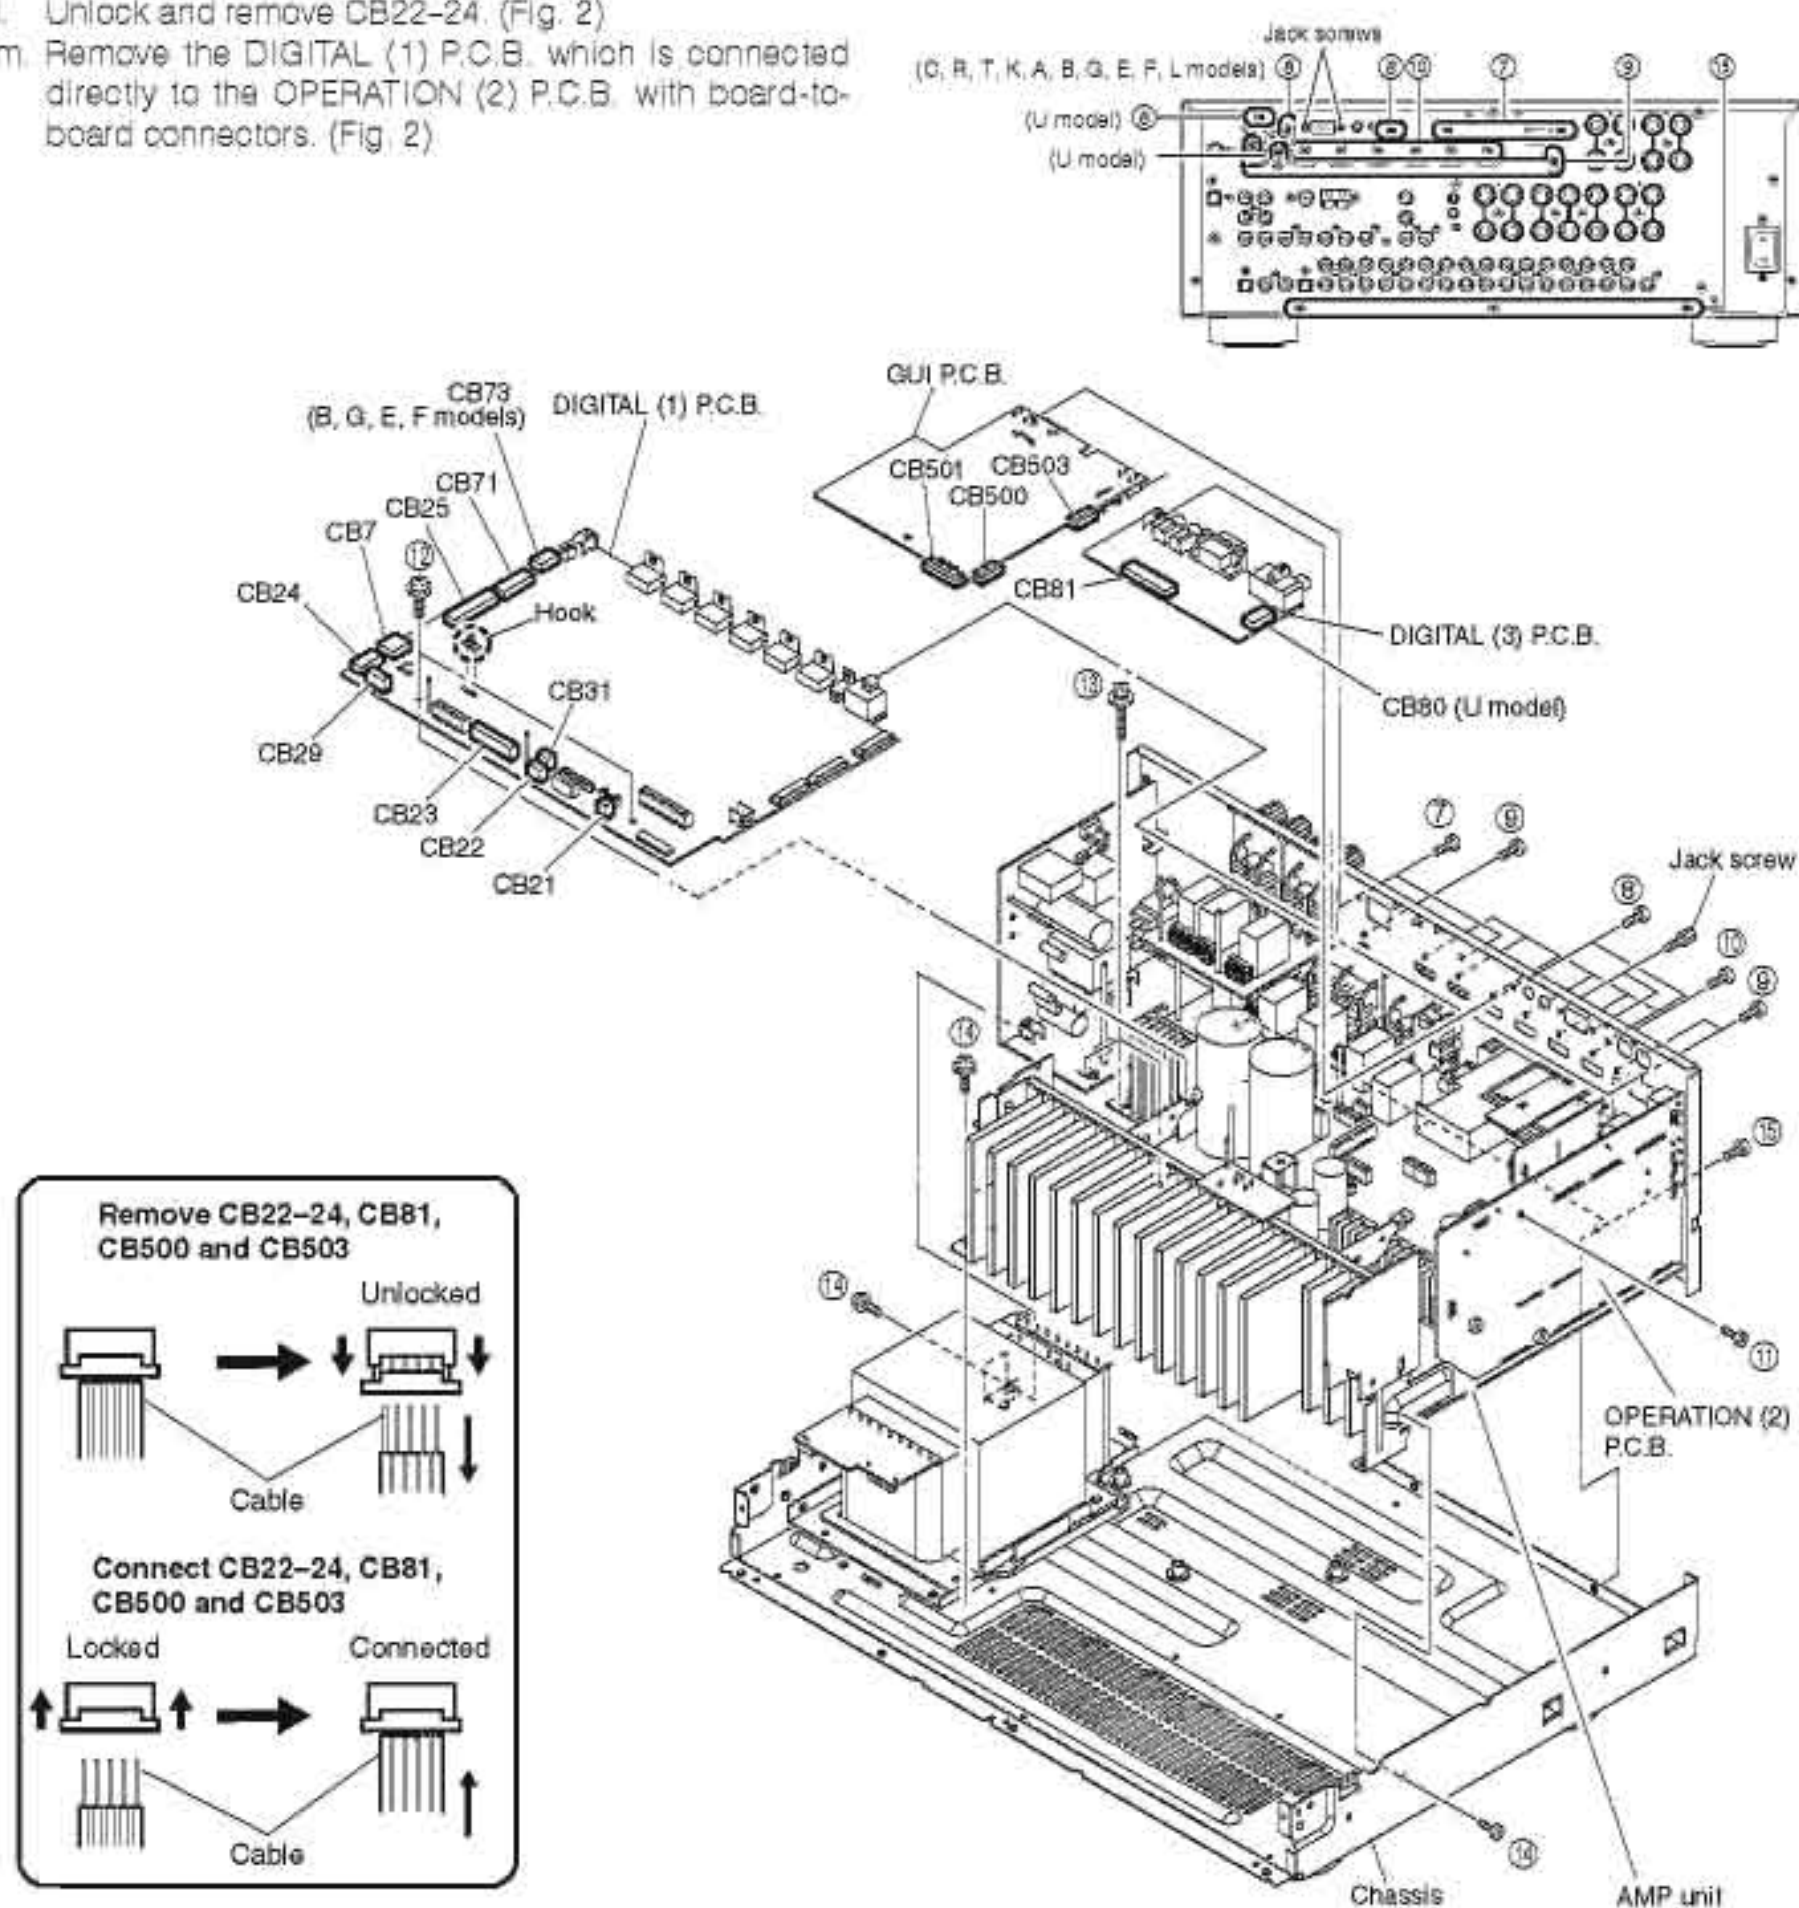

Fig. 2
3. Removal of GUI, DIGITAL (1) and (3) P.C.B.s
- Remove 2 screws (7). (Fig. 2)
- Remove CB501. (Fig. 2)
- Unlock and remove CB500 and CB503. (Fig. 2)
- Release hook, and remove the GUI P.C.B. (Fig. 2)
- Remove 2 screws (8) and 2 jack screws. (Fig. 2)
- Remove CB80 (U model). (Fig. 2)
- Unlock and remove CB81. (Fig. 2)
- Remove the DIGITAL (3) P.C.B. (Fig. 2)
- Remove 3 screws (U model) / 2 screws (C, R, T, K, A, B, G, E, F, L models) (9) and 6 screws (10). (Fig. 2)
- Remove screw (11) and 2 screws (12). (Fig. 2)
- Remove CB7, CB21, CB25, CB29, CB31, CB71 and CB73 (B, G, E, F models). (Fig. 2)
- Unlock and remove CB22-24. (Fig. 2)
- Remove the DIGITAL (1) P.C.B. which is connected directly to the OPERATION (2) P.C.B. with board-to-board connectors. (Fig. 2)
- Remove 3 screws (13) and 4 screws (14). (Fig. 2)
- Remove 3 screws (15). (Fig. 2)
- Remove the amp unit. (Fig. 2)